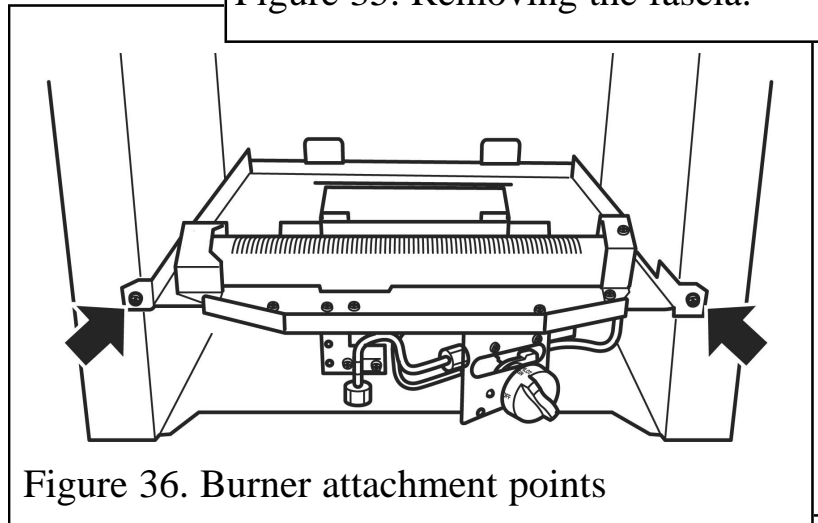

Figure 36. Burner attachment points
4. Detach the burner unit from the hotbox by removing two screws (See figure 36).